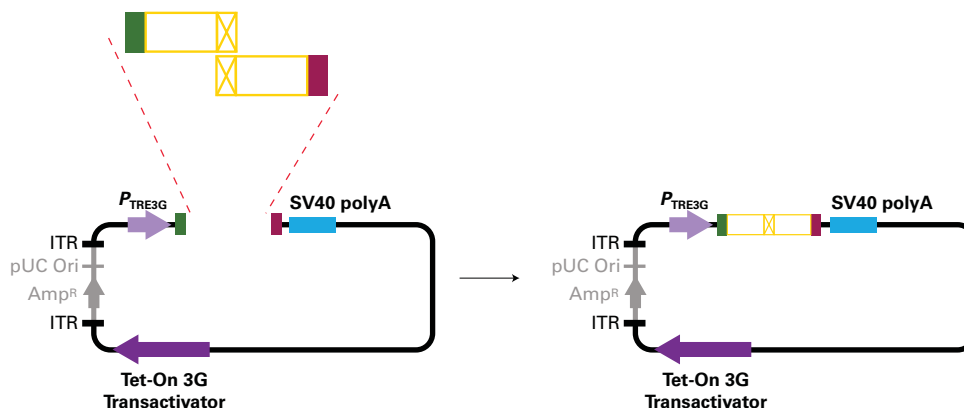

Figure 5. Create a point mutation and clone in one step using In-Fusion.
The power of In-Fusion cloning technology enables you to directly join the pAdenoX-Tet3G vector to one or more PCR fragments in a single reaction. This means that in a single cloning reaction you can, for example, fuse your gene of interest to a fluorescent protein/tag or create a point mutation within your gene of interest (3). To do so, you simply amplify 2 PCR products each with 15 bp homology to the pAdenoX-Tet3G vector at one end and 15 bp homology to each other at the other end. The central overlapping region will be at the junction of the fusion protein or at the region of the point mutation (Figure 5).